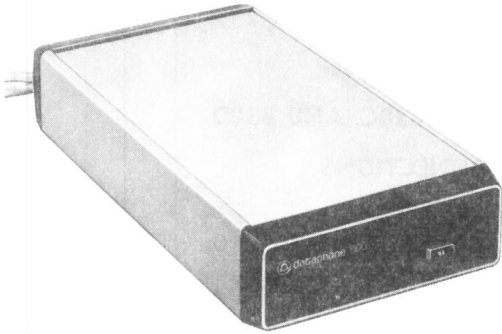
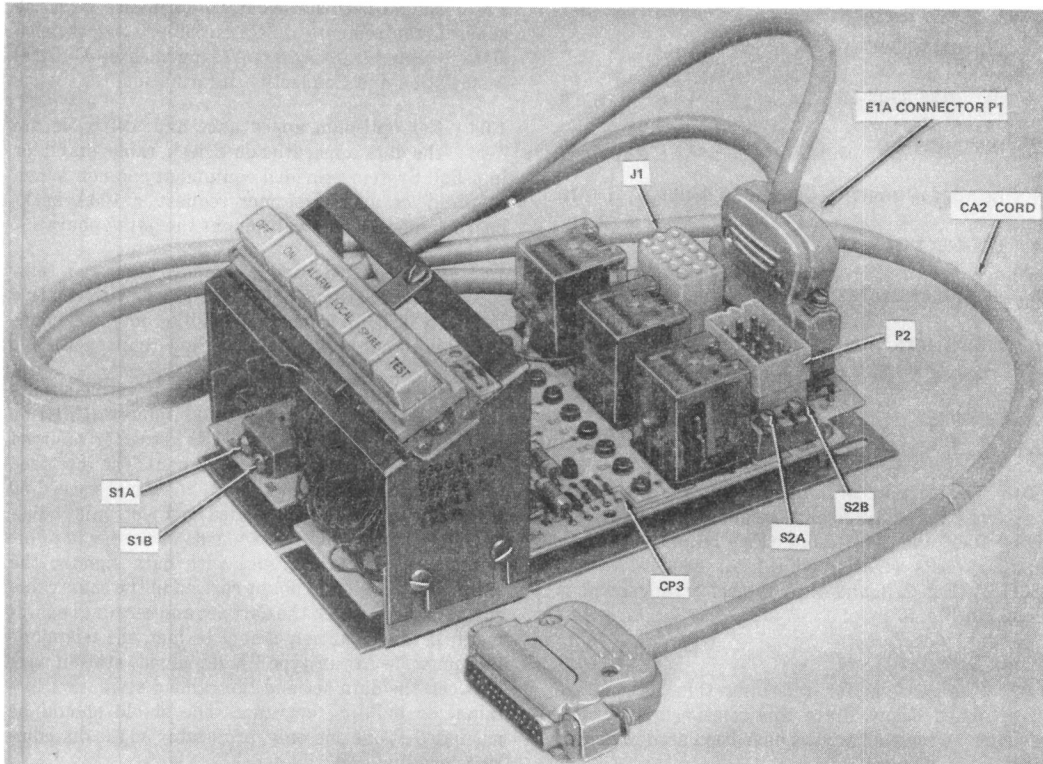
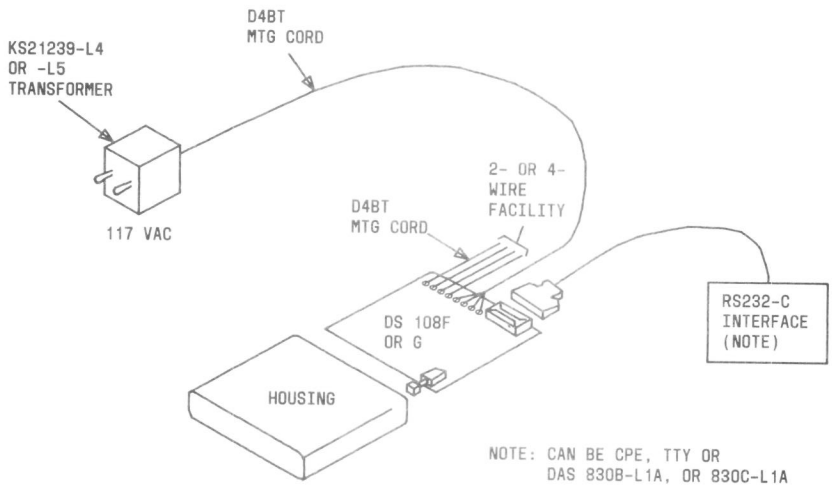

Fig. 1—DS 108F or 108G
Fig. 2—DAS 830B-L1A
Fig. 5—Typical DS 108F or G Arrangement
**1.01** This section contains information concerning the installation and connection of data sets (DSs) 108F and 108G alone (Fig. 1) and with data auxiliary sets (DASs) 830B-L1A, 830C-L1A, and 830D-L1 (Fig. 2, 3, and 4). A typical arrangement is shown in Fig. 5.